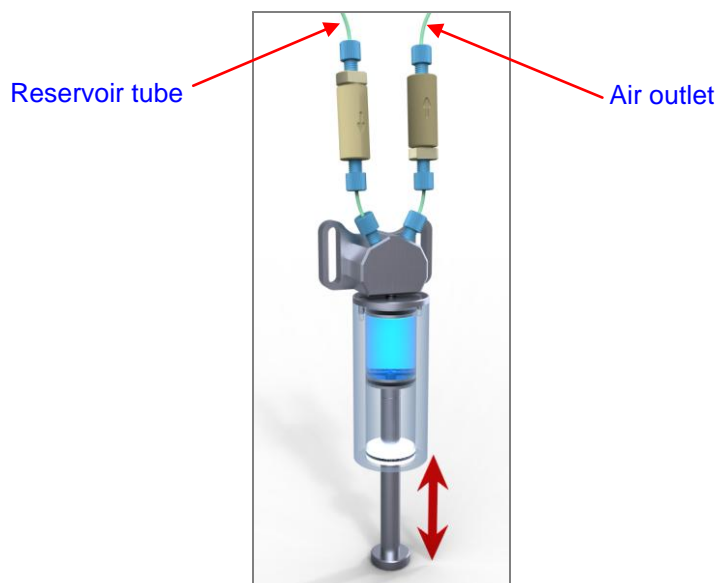

Figure 20 - Ventilating
- (3) If you draw up into the syringe now, fluid is taken in from the reservoir (shown in light blue in Figure 20). With subsequent pressures, the fluid again exits the other tube along with the air in the system. Repeat this procedure until the system is adequately ventilated and press the syringe to its limit.